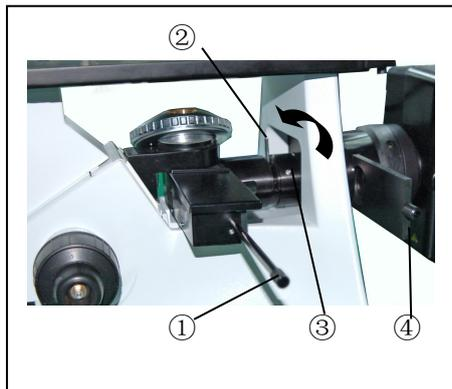

Fig 9
3.1.8 Centering the Field Iris Diaphragm (Fig 9, 10)